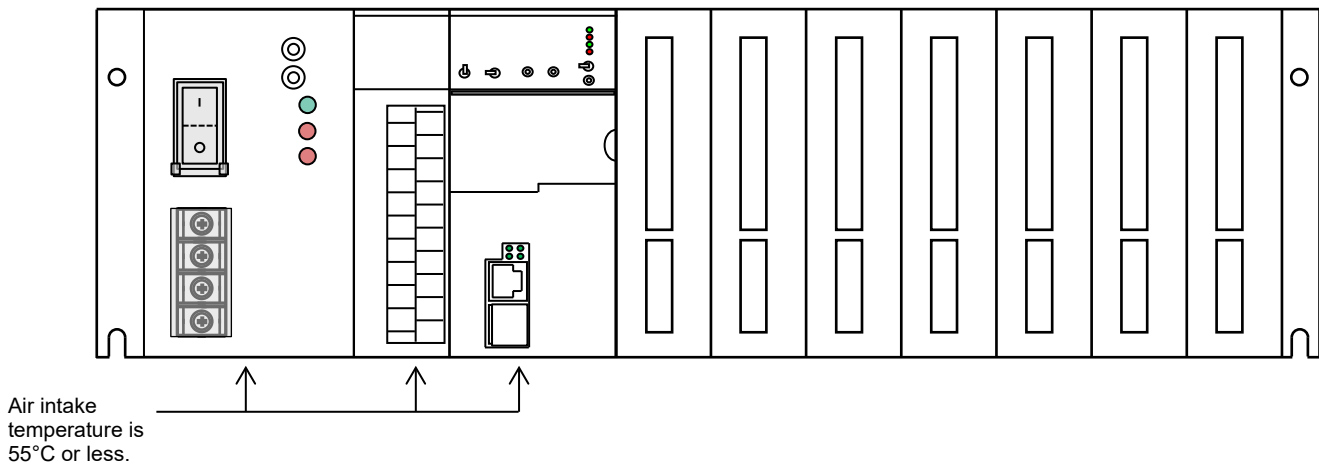

Figure 2-5 Installing units in the S10VE
Install units on the cubicle after ensuring that the ambient temperature around the unit is 55°C or less (that is, each module's air intake temperature is 55°C or less), as shown in Figure 2-5.
- The S10VE CPU module, which performs an equivalent function to the S10V LPU+CMU+ET.NET module configuration, also has an equivalent current consumption and heat dissipation. For the S10VE, the interval between unit installations is decided by the temperature of the air intake side of the module. Therefore, confirm that each module's air intake temperature is 55°C or less, as shown in Figure 2-5.